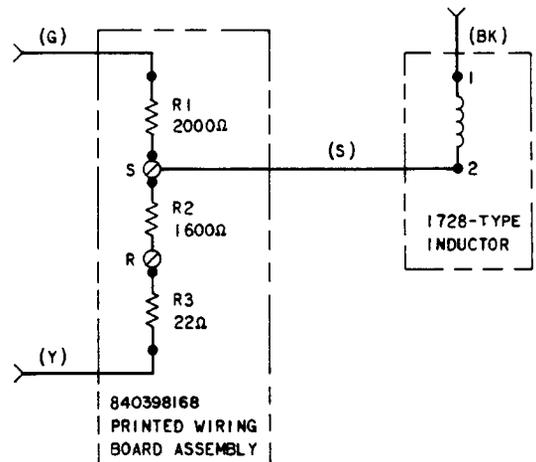

Fig. 2—D-180489 Kit of Parts, Schematic
- Circuit consists of resistors combined with an inductor (Fig. 2).